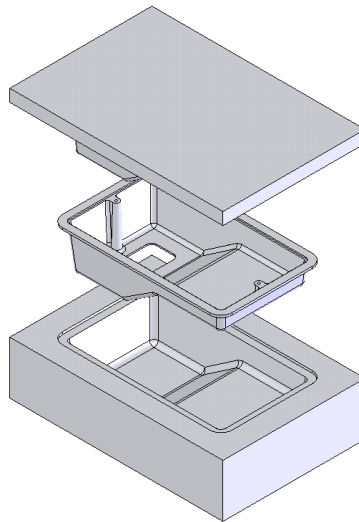

Figure 17-47 Exploded view of the Mold Base assembly
3. Using the **Assembly Exploder** dialog box, explode the Mold base assembly, refer to Figure 17-47.